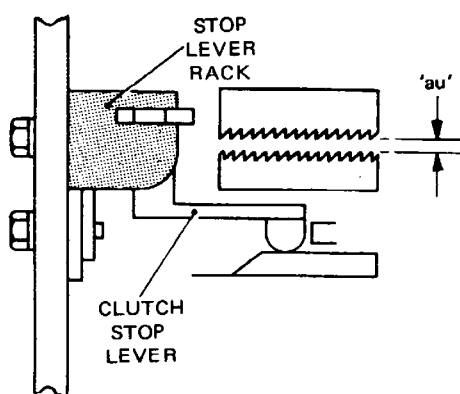

Fig. 4.49 STOP LEVER RACK (PLAN VIEW)
- 52.1 Set the unit to the start condition, and check that the gap between the clutch teeth (dimension 'au' of Fig. 4.49) is 0.010–0.015 inch.